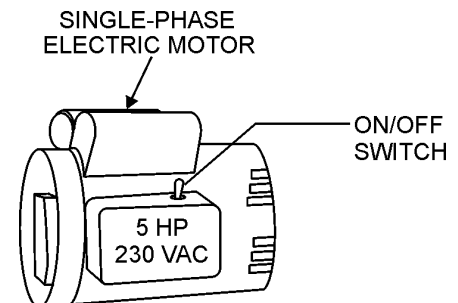

Figure 11. Main ON/OFF Switch
- Set the electric motor's ON/OFF switch (Figure 11) to the **ON** position.